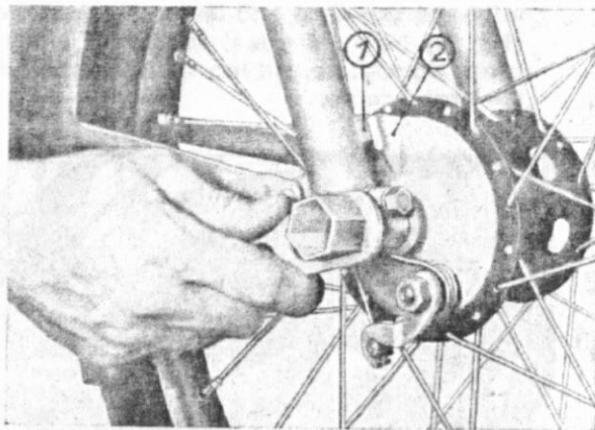

Fig. 20: Unfastening the stub-axe lock nut of the front wheel
1. Unscrew lock nut of stub-axe (on the right, looking in the direction of riding) by means of spark plug wrench (Fig. 20).
Proceed in reversed order. Before installing brake back plate restore brake return spring. Fit brake stop nose of right fork tube (Fig. 20, No. 1) into recess on the brake back plate (Fig. 20, No. 2).